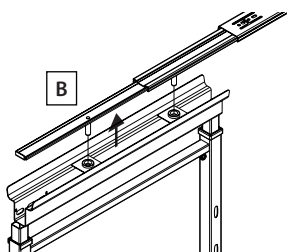

fig. 6
7) Two pins in top slide insert into mating bushings in the top of the frame (A) as shown in figure 6.